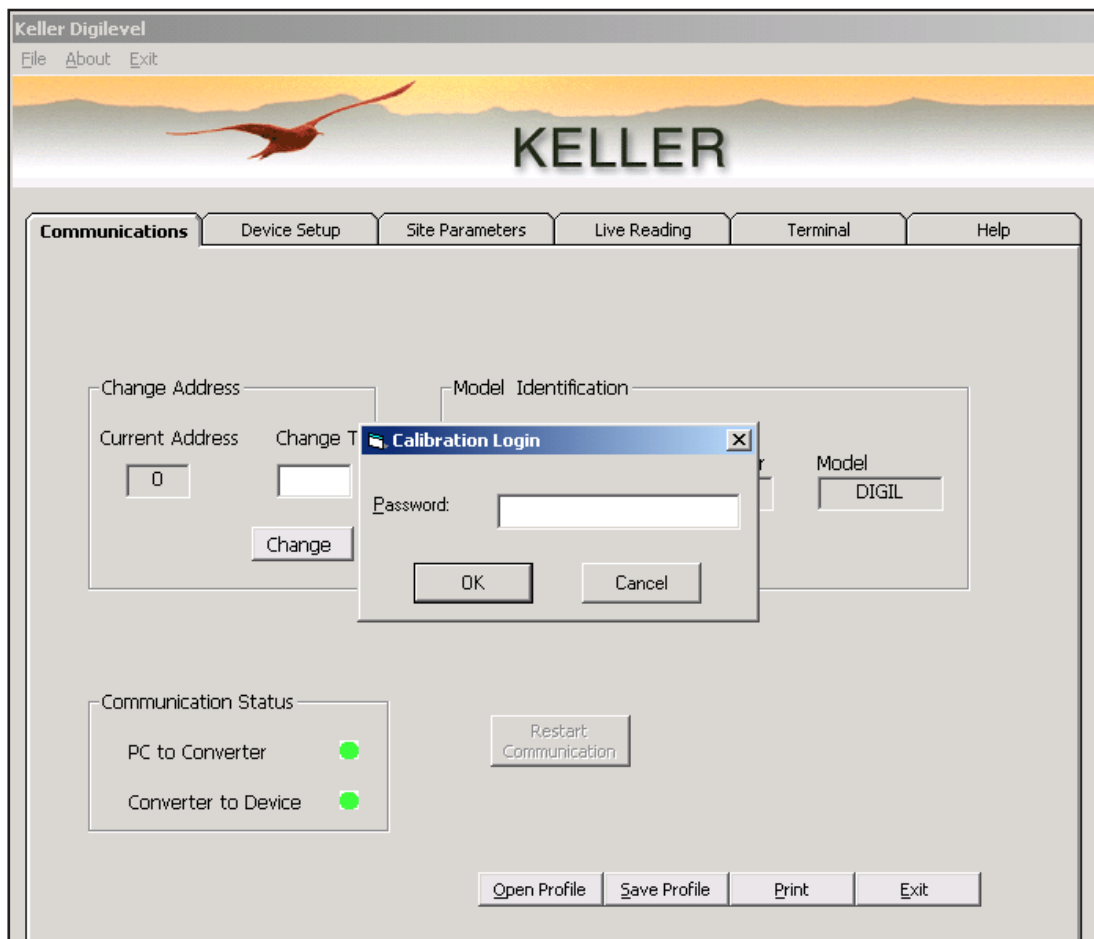

Figure 1 - Login
1. To enter and enable the Calibration, the Digilevel program must show the Communications tab. A Digilevel probe should be attached at this point. User then enters <Ctrl><F3> to display the login/pass word window. See Figure 1 below.